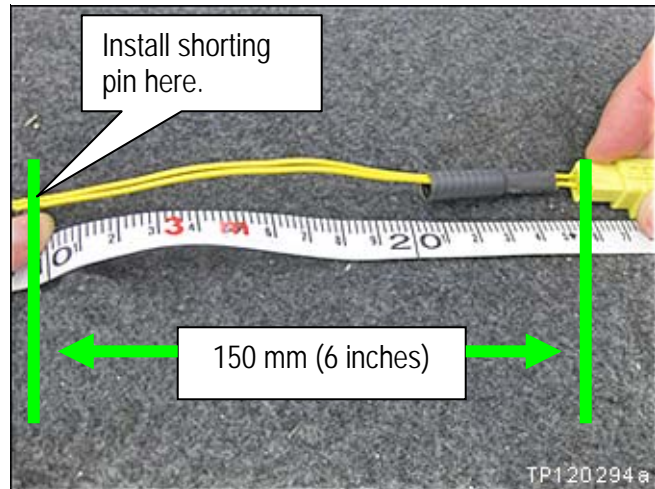

Figure CR7
7. Install the shorting pin at the 150 mm (6 inch) point (see Figure CR7 to CR10).